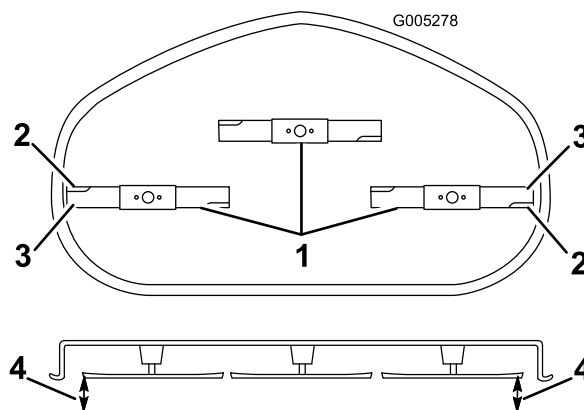

Figure 54
- Carefully rotate the blade(s) so that they are all side to side (Figure 54).
- Measure between the outside cutting edges and the flat surface (Figure 54). If both measurements are not within 5 mm (3/16 inch), an adjustment is required; continue with this procedure.